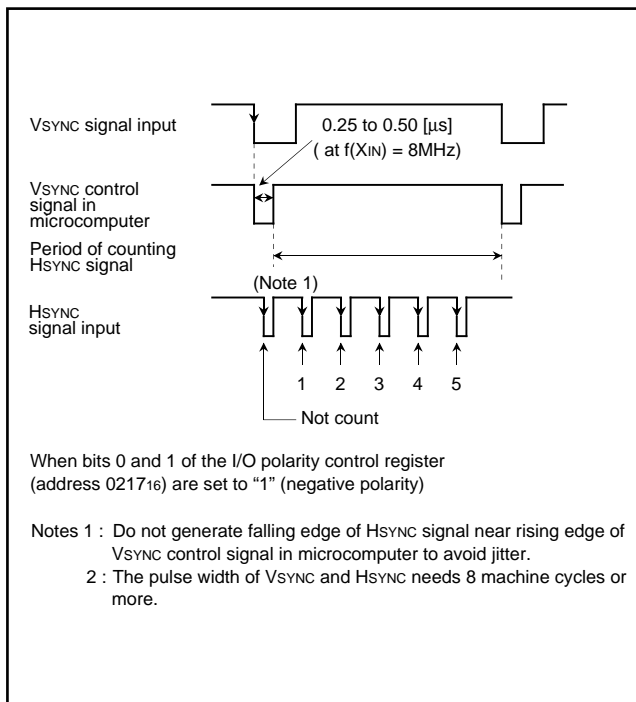

Fig. 54. Supplement explanation for display position
**Note:** When bits 0 and 1 of the I/O polarity control register (address 021716) are set to "1" (negative polarity), the vertical position is determined by counting falling edge of HSYNC signal after rising edge of VSYNC control signal in the microcomputer (refer to Figure 54).
In the following, the field determination standard for the case where both the horizontal sync signal and the vertical sync signal are negative-polarity inputs will be explained. A field determination is determined by detecting the time from a falling edge of the horizontal sync signal until a falling edge of the VSYNC control signal (refer to Figure 54) in the microcomputer and then comparing this time with the time of the previous field. When the time is longer than the comparing time, it is regarded as even field. When the time is shorter, it is regarded as odd field